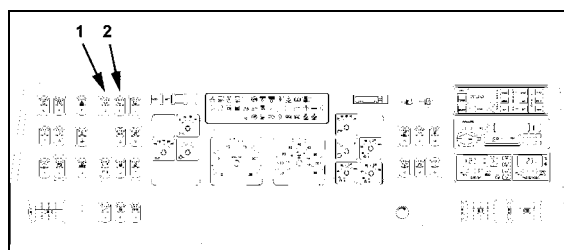

FIGURE 32: DASHBOARD
Depress the upper windshield wiper switch located on the dashboard L.H. side to the first position for intermittent wiping, and to the second position for continuous wiping (item 1, fig. 32).
To activate the upper windshield washer pump, depress and hold the rocker switch on dashboard L.H. side (item 2, fig. 32). The upper wipers will come on automatically and will shut off a few seconds after releasing the rocker switch.